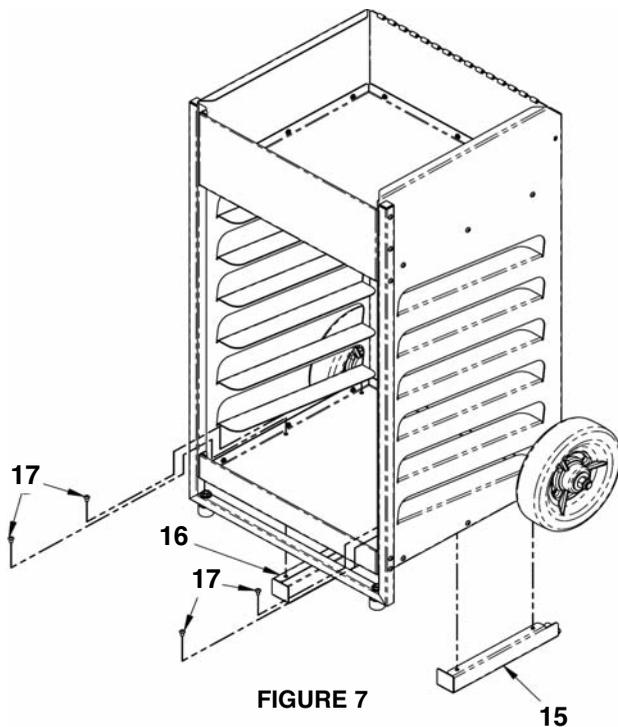

FIGURE 7
7. Install the left and right handle storage channels (#15) and (#16) to the bottom of the cart as shown in figure 7, secure with four #10-32 x 5/16" screws (#17). All the #10-32 screws in the entire cart can now be tightened being careful not to over torque them.